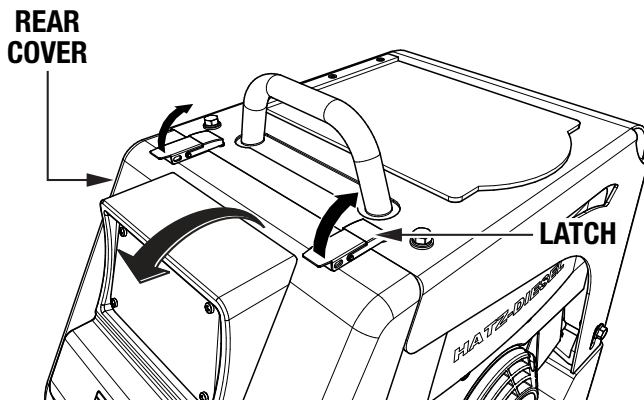

Figure 3. Open Rear Cover
1. Release the two latches at the top of the rear cover (Figure 3), then pull the rear cover downward to open.